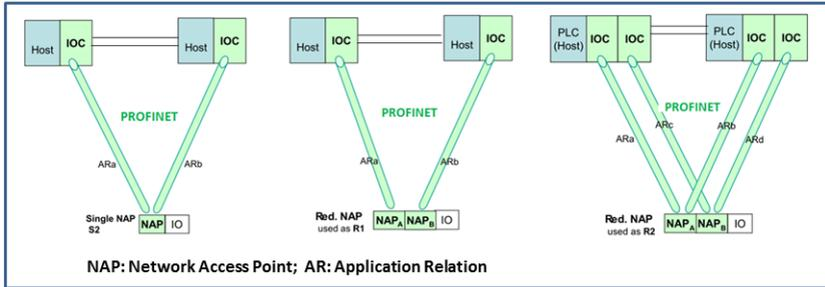

Figure 13: System redundancy
**In the case of system redundancy** a PROFINET device establishes more than one communication relation with a redundant controller. A distinction is made here between different ways of implementing system redundancy. S2 system redundancy (Figure 13, left) describes a compact PROFINET device, such as a field device, that can be operated on a system with high availability with no need of additional hardware. R1 and R2 system redundancy (Figure 13, center and right) refers to the redundant realization of the communication interface of a modular PROFINET device for example, with a Remote I/O. R2 system redundancy achieves maximum plant availability through its 4 paths between the controller and device. Support of system redundancy is mandatory for PROFINET devices of process automation in CC-B(PA). For more information, see the PI document “PROFINET System Redundancy” [7.122 e]